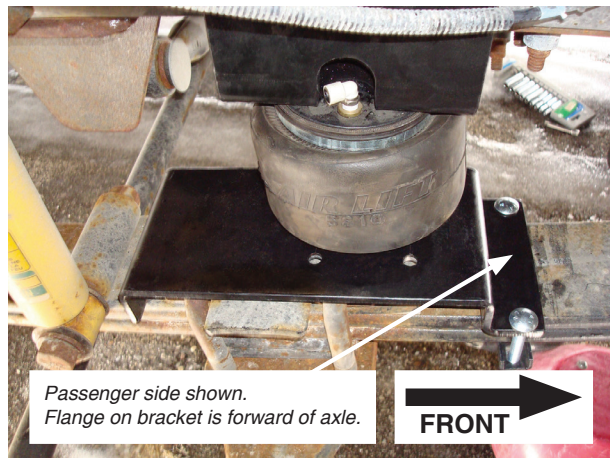

fig. 7
1. Set the right and left hand unit in place under the frame, over the axle retainer. Note: the flange for the mounting bolts goes forward on the spring. (Figs. 7 & 8).